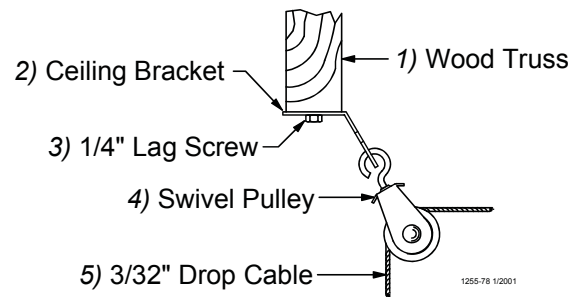

Figure 17. Pulley Installation
6. After securing the Ceiling Hook to the truss, slide the hook of a Swivel Pulley into the slot, as shown in **Figure 17**.